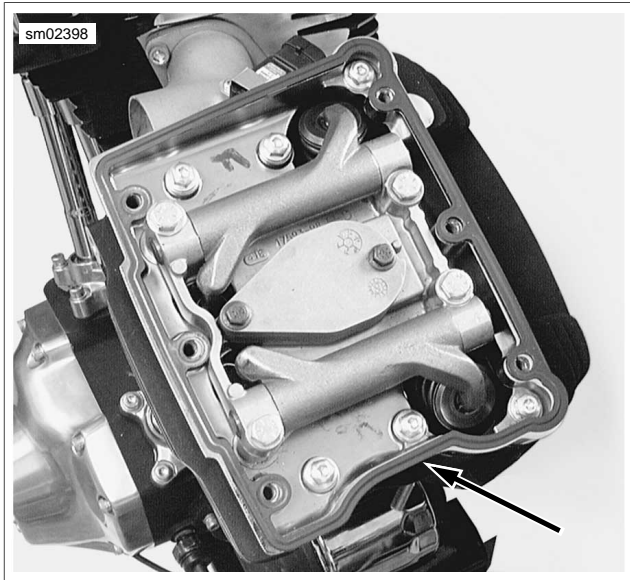

Figure 3-49. Rocker Cover Gasket Indent (Front Cylinder Shown)
2. See Figure 3-49. Install a **new** rocker cover gasket with indent facing forward on the rocker housing flange. Place the rocker cover into position aligning the holes in the cover with those in the gasket.